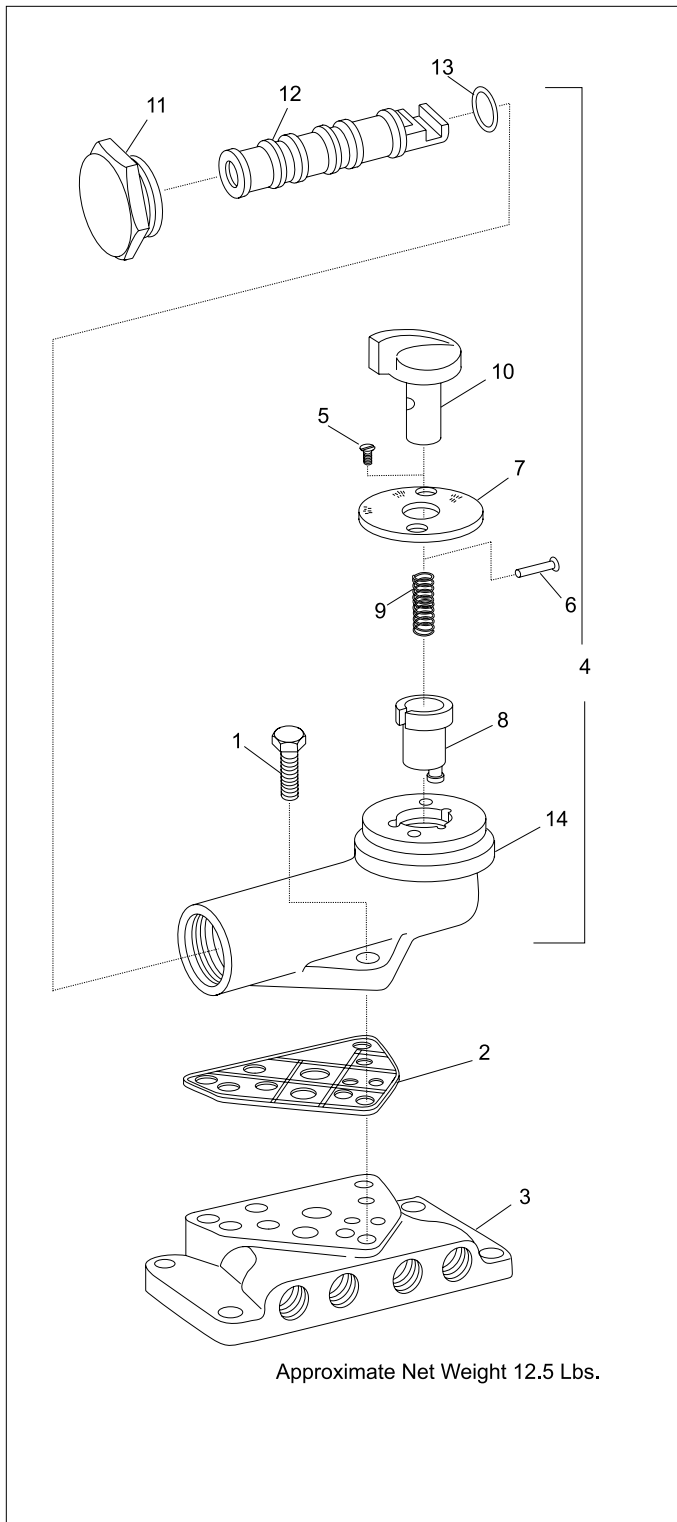

Figure 3 - Exploded View
(Figure 3)
8.4.2 IMPORTANT: Whenever the "MU-2A" Valve Portion, Part No. 559338, is removed from an equipment arrangement for any reason, and it is reinstalled or replaced with a NEW or repaired and tested "MU-2A" Valve Portion, a NEW pipe bracket mounting gasket **MUST BE** used. This gasket is shown as Ref. 2 in Figure 3.